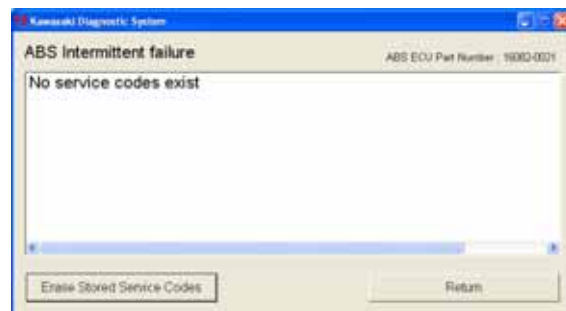

Fig. 7-13 Erase Confirming
- o Confirmation the ABS Intermittent failure has been erased is shown on screen (Fig. 7-13).